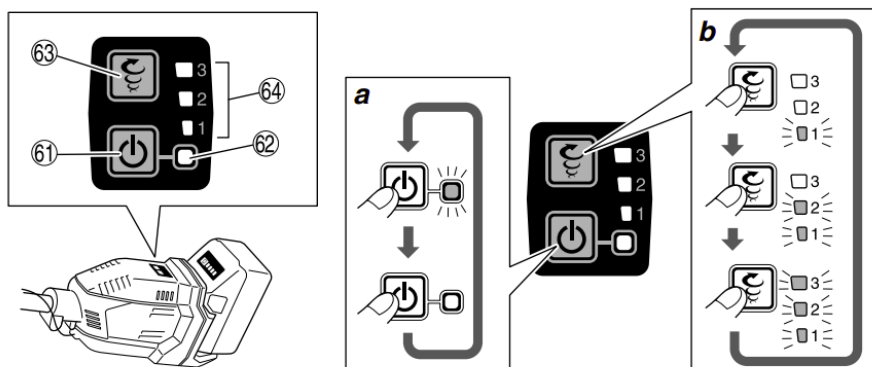

Fig. 23
The power lamp indicates various statuses for the tool. (Fig. 23)
2. Turn on the tool. (Fig. 23-a)
**a-2****Fig. 24****Mode switch (Fig. 23-b)**